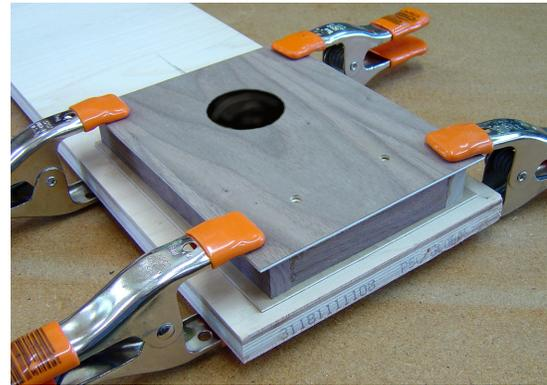

FIG. 6
- ___6. Before you close up the box permanently, we recommend signing and dating the inside of the BACK panel. Then you can go ahead and glue the BACK in place, making sure it overhangs the FRAME a little on all sides. Use clamps to hold the parts together firmly. We like to clamp the whole assembly down against a flat scrap of plywood. (fig. 6)